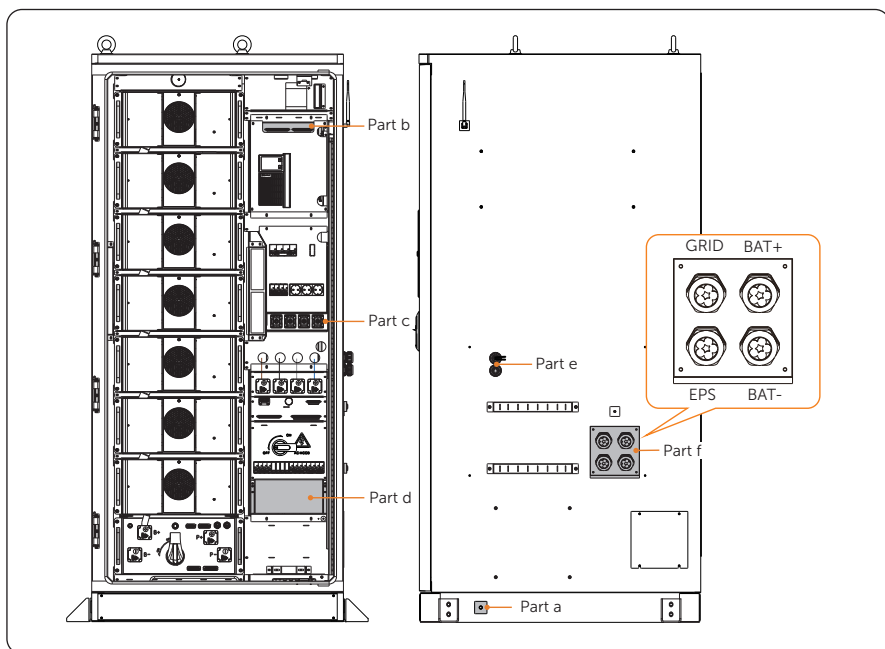

Figure 7-1 Parts that need wiring
- Before wiring, operators are required to learn which parts need to be conducted wiring. For details, please refer to Figure 7-1.
Regarding the PE connection, namely **Part a** in “Figure 7-1 Parts that need wiring”, please strictly follow the steps below.
The Grid and EPS cables of the inverter outlet from the battery cabinet from the Grid and EPS port of **part f** in “Figure 7-1 Parts that need wiring”, please strictly follow the steps below.